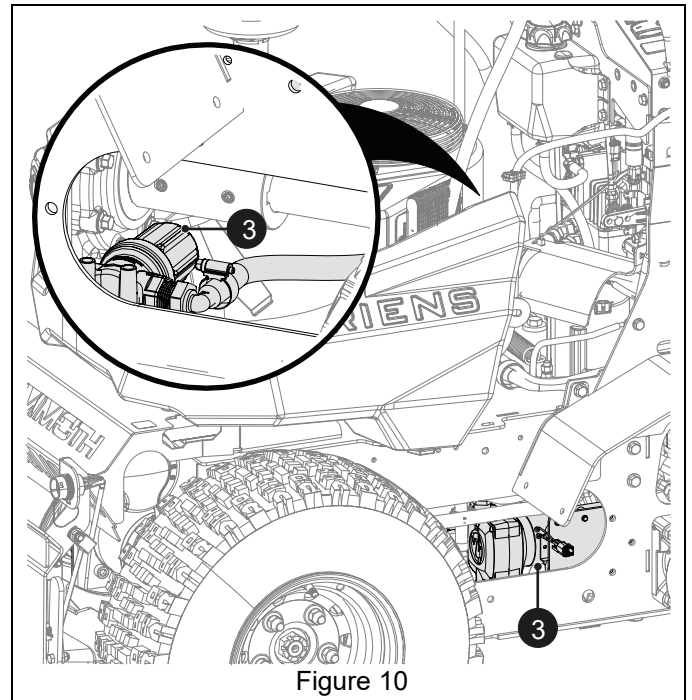

Figure 10
12. From left side of tractor position pump assembly (item 3) inside of left side frame. Route filter assembly under drive shaft to inside right side frame. See Figure 10.